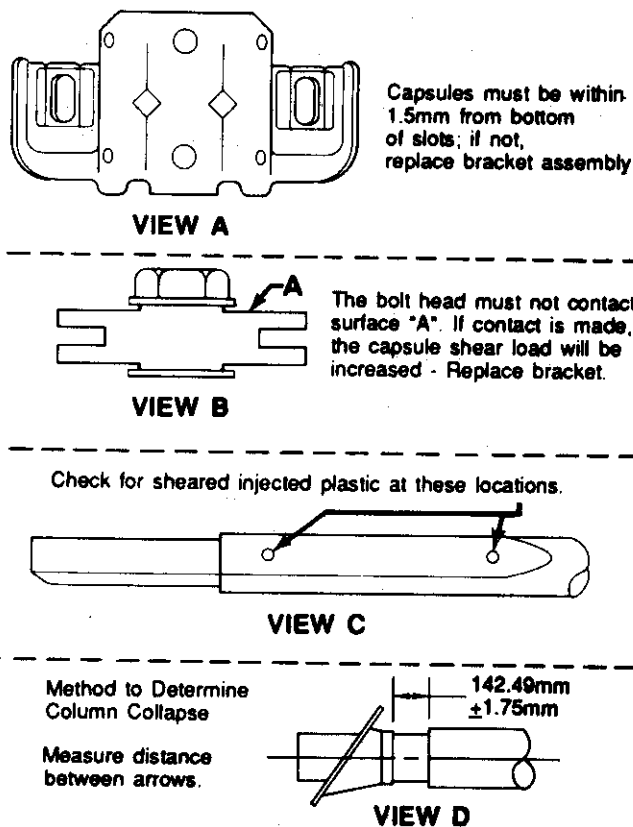

Figure 33 - Checking Column for Accident Damage
- Steering column for accident damage (figure 33).